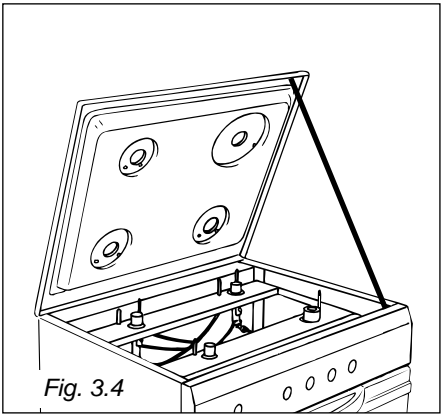

Fig. 3.4
- Hold the hobtop open by a support (Fig. 3.4).